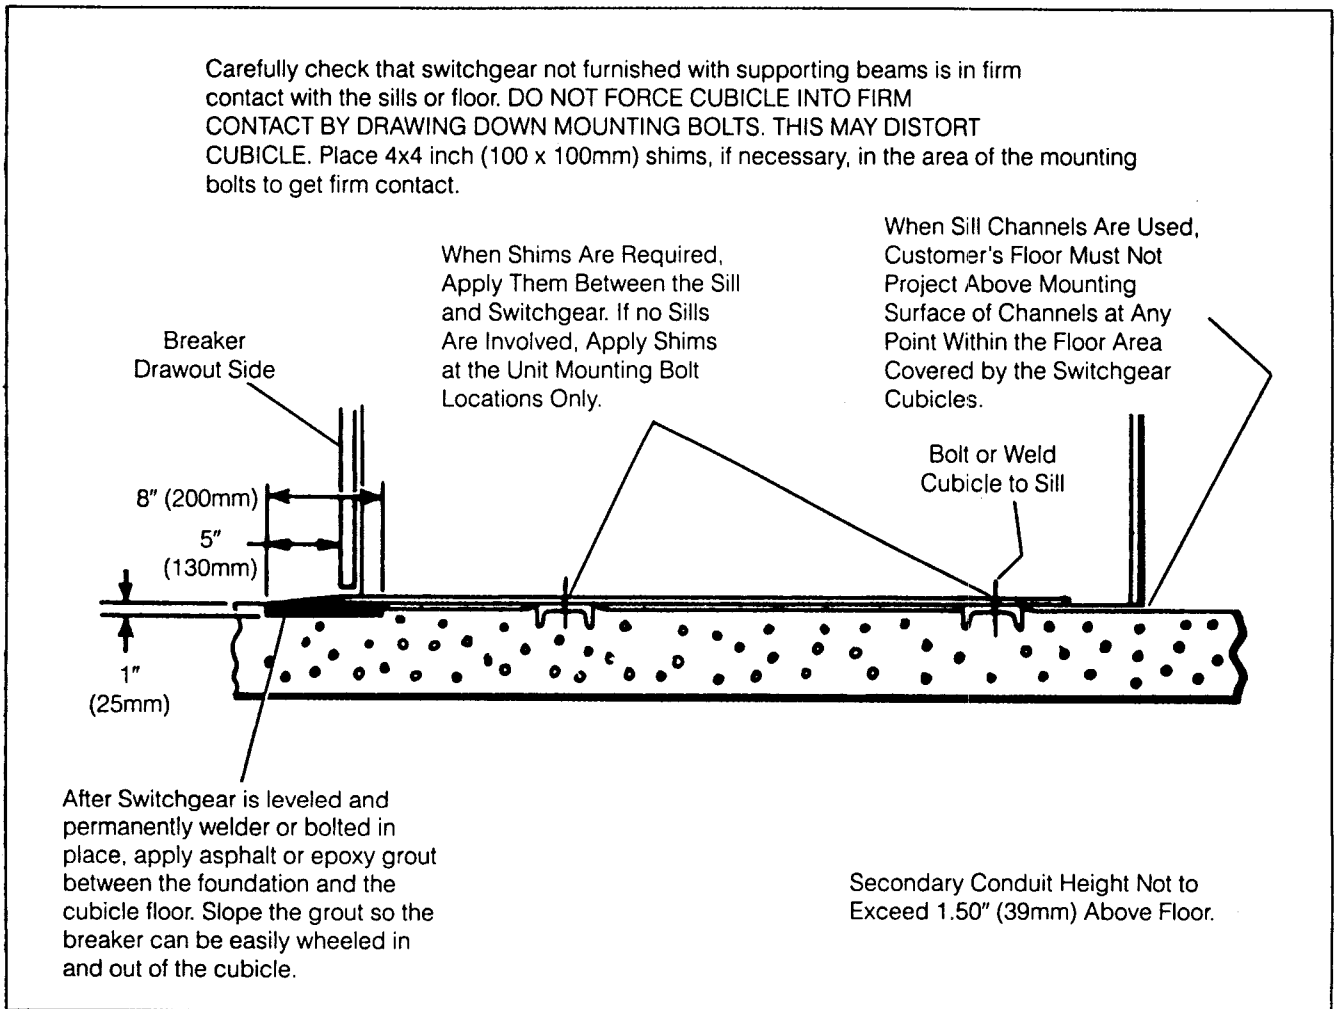

Figure 13. Setting Indoor Cubicles on Foundation
Before setting and erecting the cubicles determine the correct locations of each shipping group on the general arrangement drawing. Sweep the mounting surfaces to remove all dirt. Refer to Figures 13 through 20 for additional installation instructions.
1. The switchgear equipment represented was accurately aligned on level steel bed plates at the factory. This care insures proper operation and fit of mating parts. Supporting surfaces for the switchgear at each mounting bolt location must be level and in the same plane. There must not be any projection above this plane within the area covered by the switchgear cubicles. If customers floor or grouted sill channels do not meet this requirement it will be necessary to shim in the following manner. The four (4) anchor bolt locations in each cubicle must freely rest in firm contact with the mounting support surfaces. There must not be any projection or obstruction in other areas which may distort cubicle. Do not force cubicle into firm contact by drawing down mounting bolts as such drastic means will distort cubicles. Add 4" (100 mm) square shims adjacent to anchor bolts until firm contact is achieved. Check each bolt location, 4 per cubicle, and tighten bolts. (See Figure 13.)